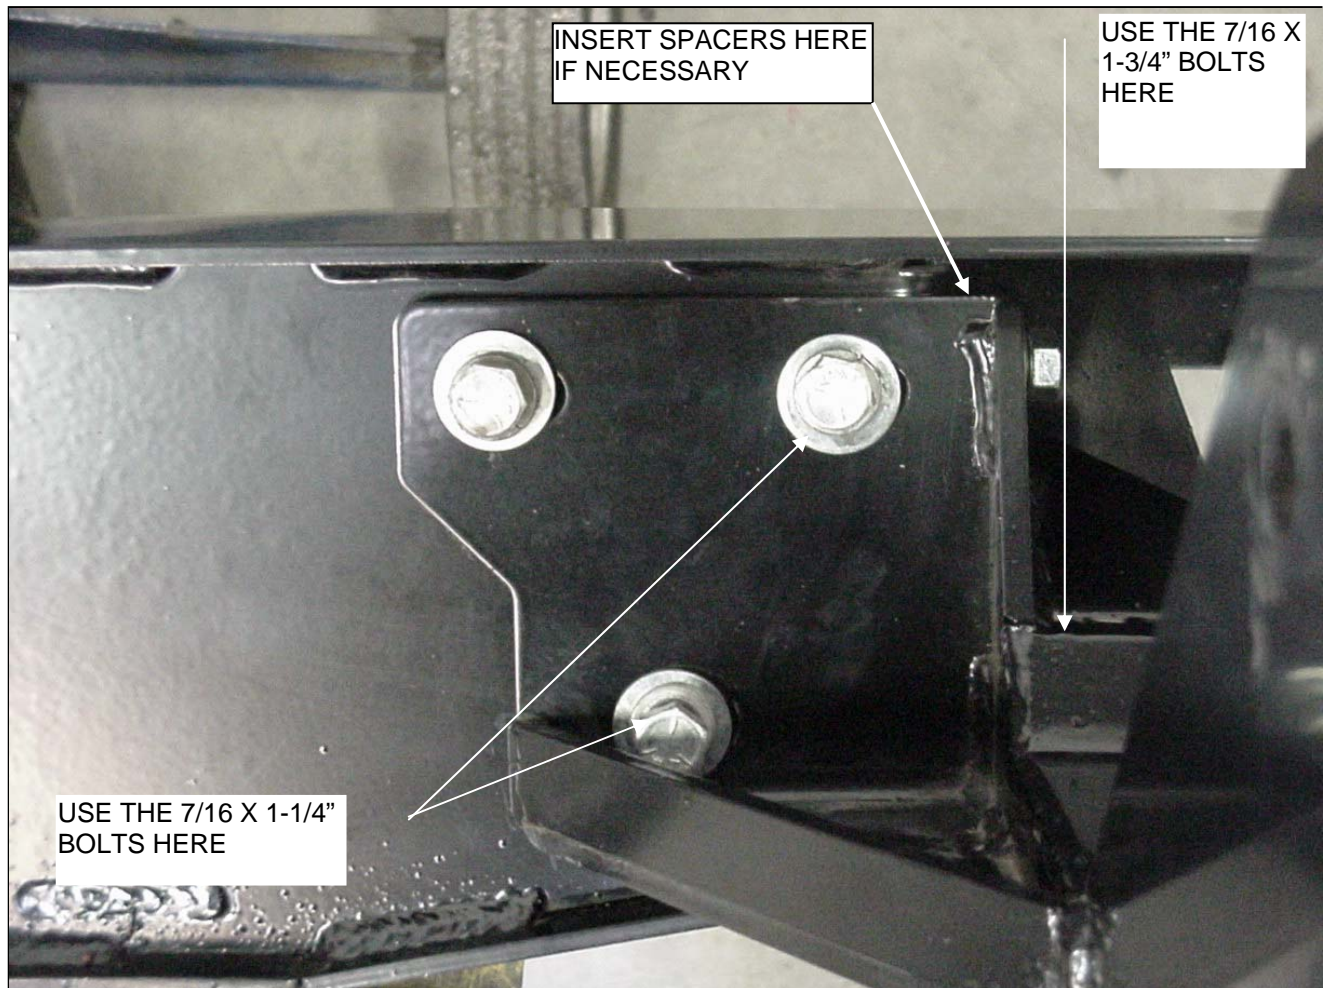

Figure 1, Attach Frame brackets to the new Warn Rear Bumper.
2. Remove the new Warn rear bumper, frame brackets and hardware kit from the shipping box. Measure the width from the outside of the driver's side frame rail to the outside of the passenger's side frame rail. Record this measurement. Assemble the frame brackets to the rear bumper using the supplied 7/16" bolts, lock washers and flat washer. If the vehicle has a frame mounted trailer hitch it will be necessary to install the spacer plates. There are four supplied spacer plates to accommodate various widths. **See Figure 1 and 2.**